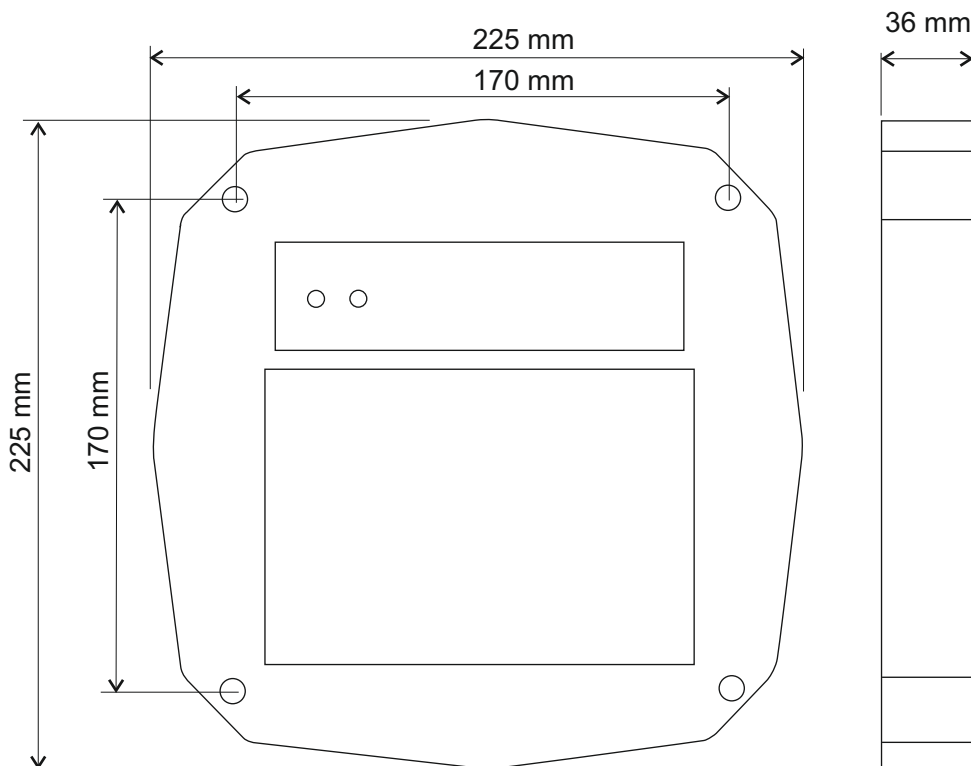

Figure 1.Dimensions.
- Mark and drill the mounting holes of the same size as the holes in the reader casing; (Figure 1);